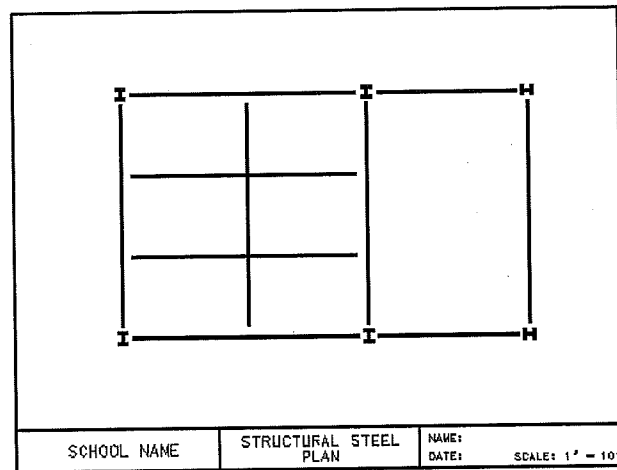

Figure P6-10 Place two parallel copies of the top left horizontal line, 8' apart below the line
STEP 3: Make two parallel copies of the top left horizontal line, each 8' apart below the line, as shown in Figure P6-10.